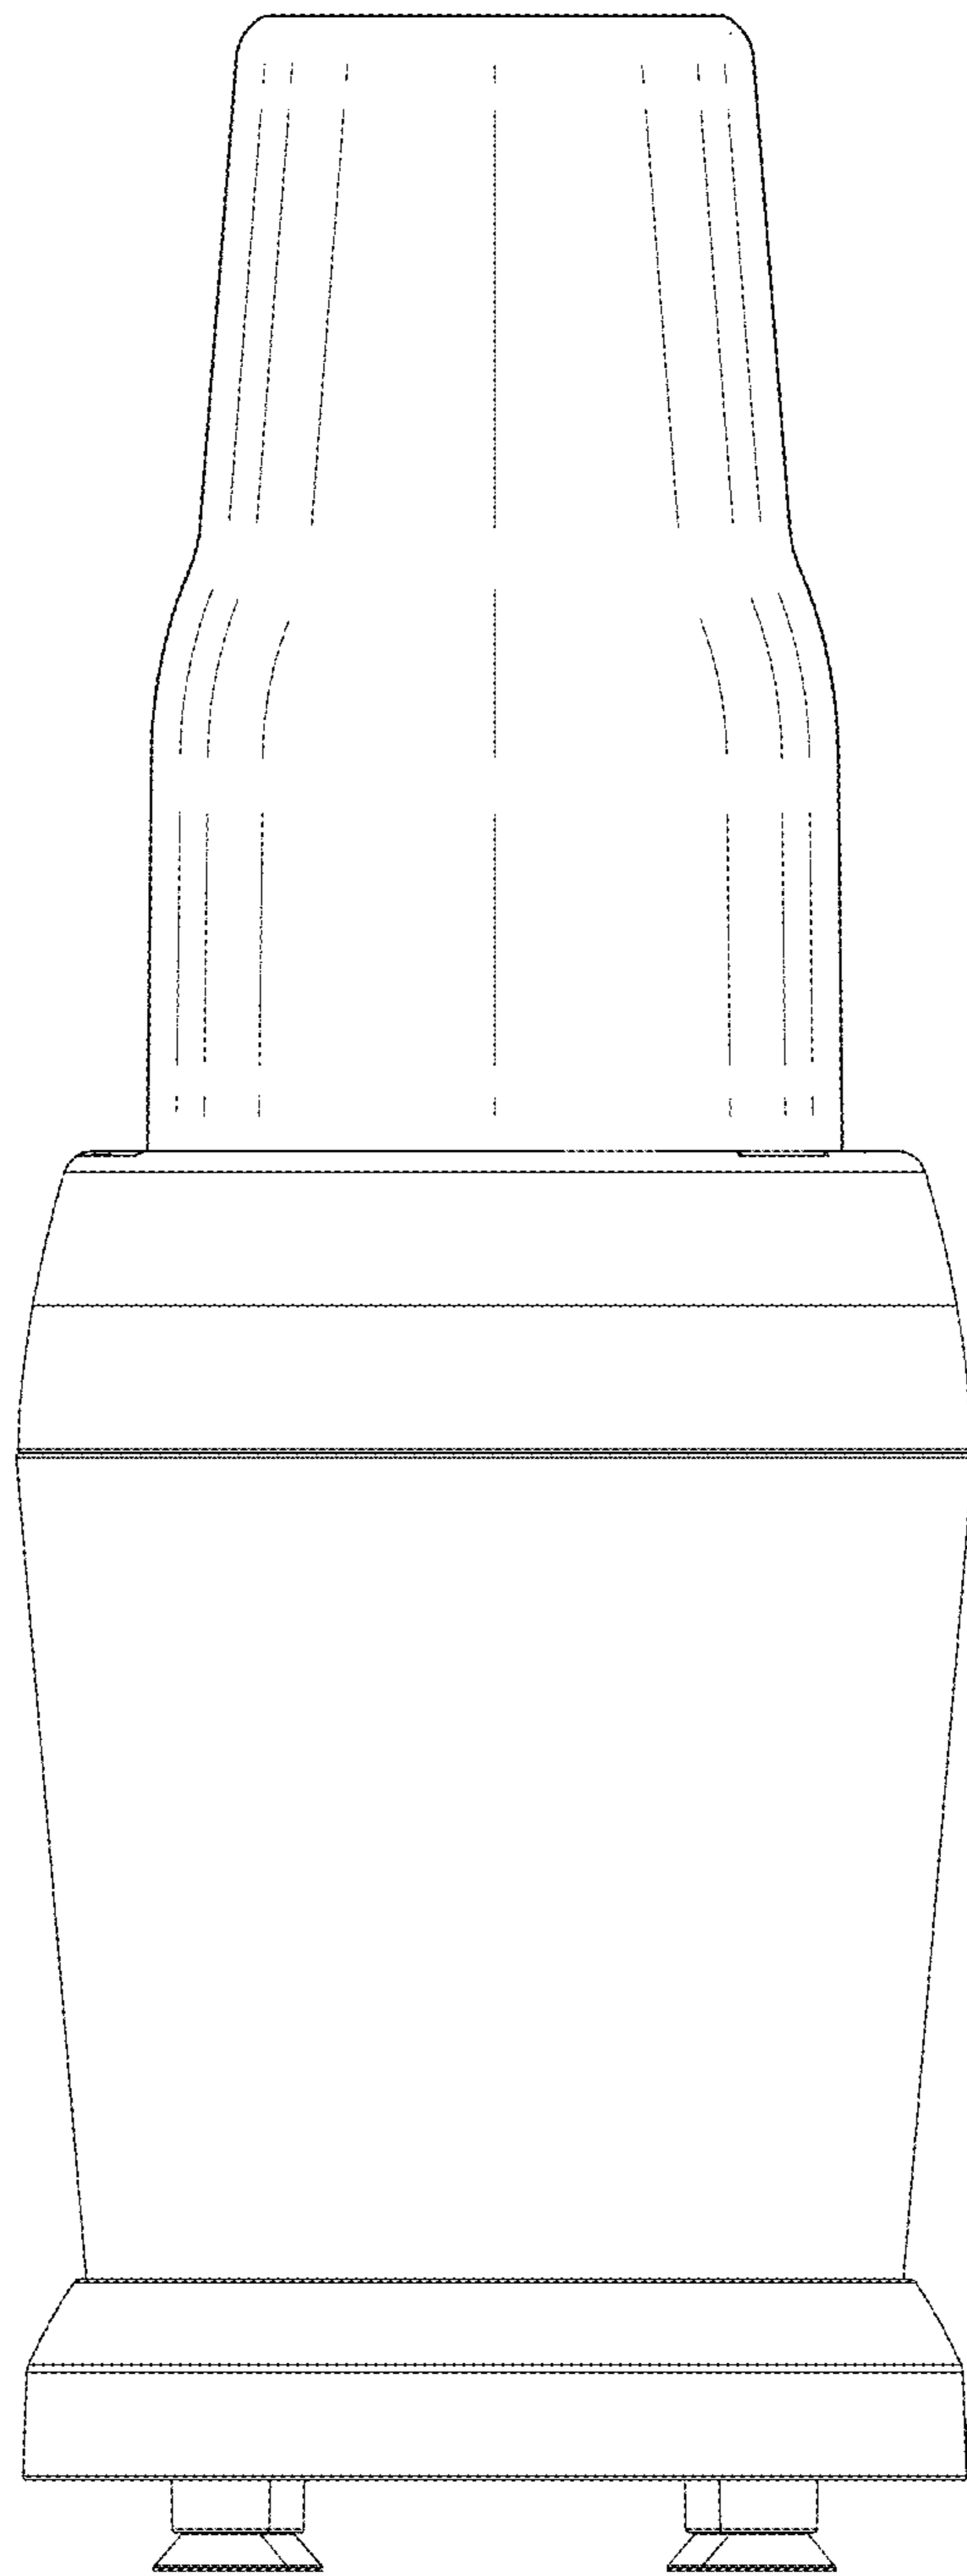

FIG. 1
- FIG. 1 is a front end view of a personal blender assembly showing my new design.